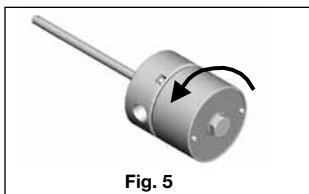

Fig. 5
- Step 1: Unscrew and remove main housing cover. (Fig. 5)